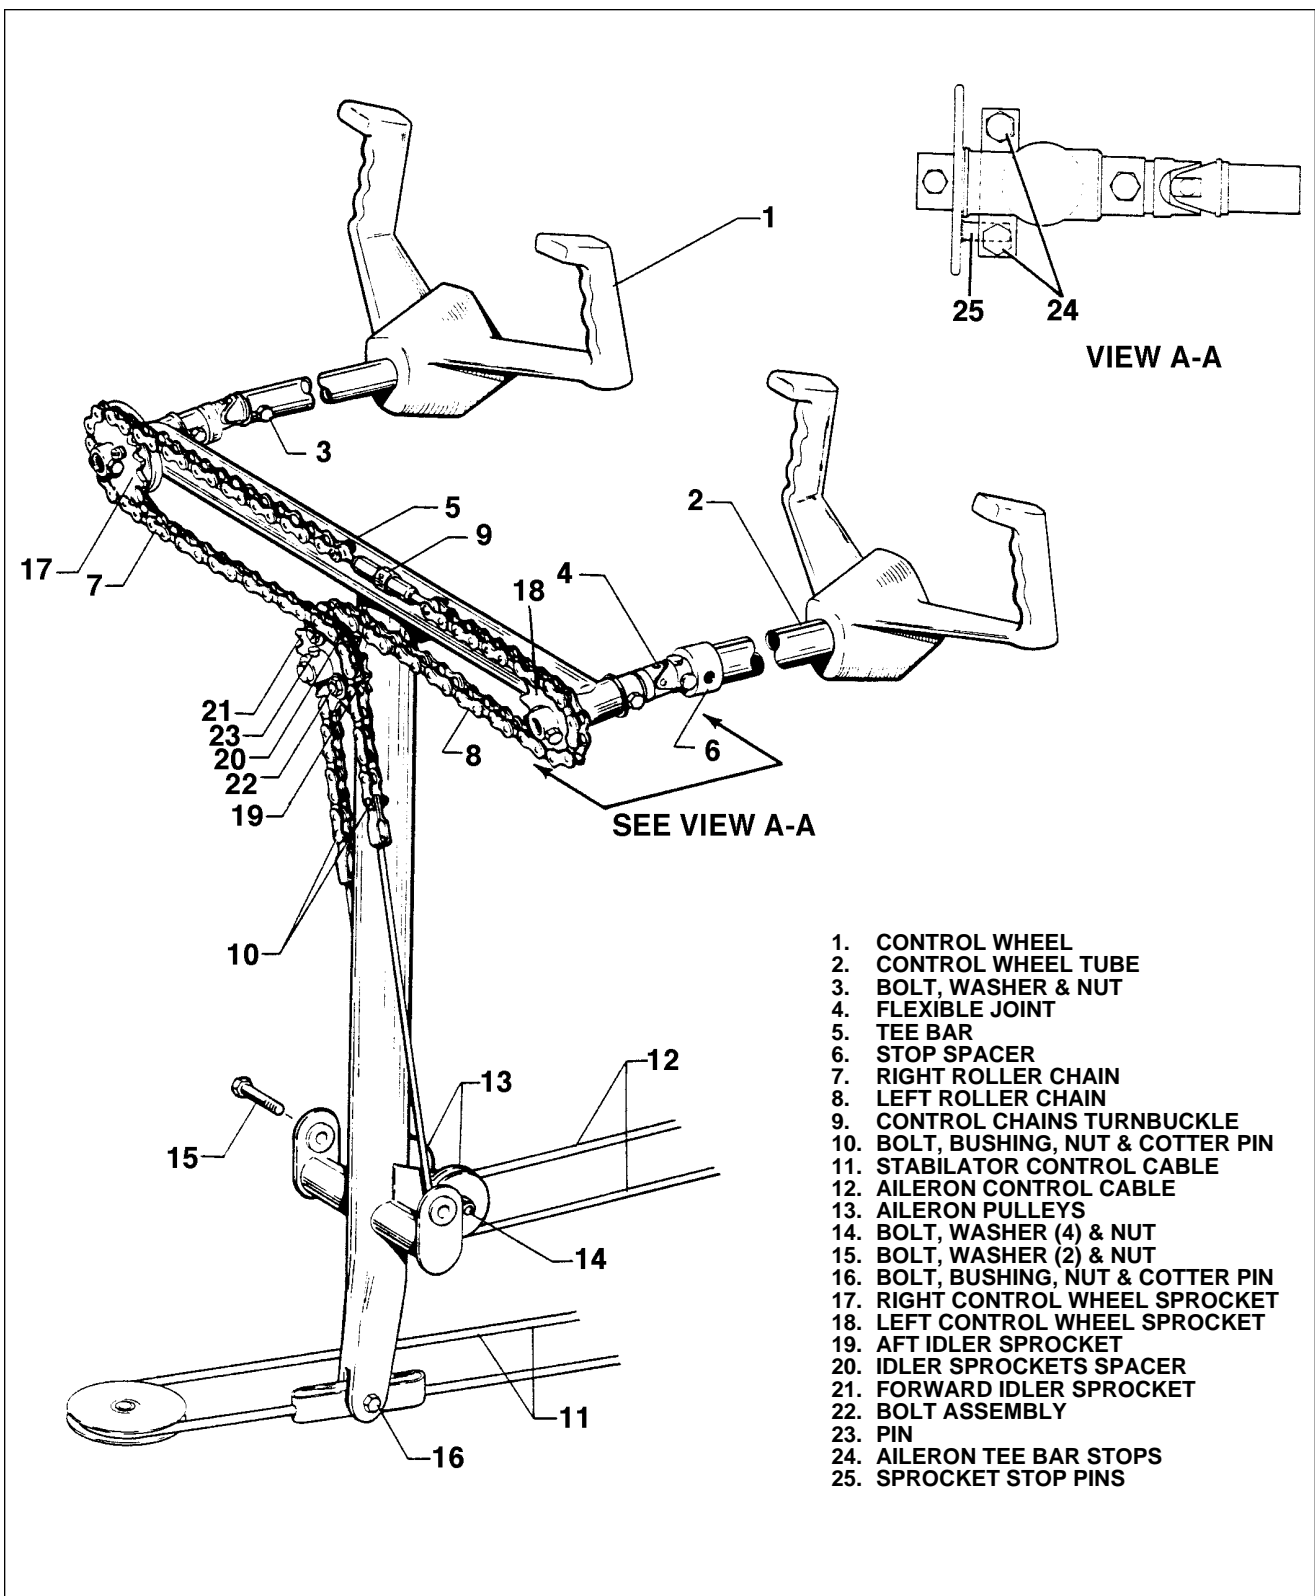

Figure 5-6. Control Column Assembly
5-7. REMOVAL OF CONTROL COLUMN ASSEMBLY. (Refer to Figure 5-6.)
5-8. INSTALLATION OF CONTROL COLUMN ASSEMBLY. (Refer to Figure 5-6.)
- 5-9. INSTALLATION OF FLEX JOINT REPLACEMENT. (Refer to Figures 5-6 and 5-7.)
- Using a #5 (0.2055) drill bit, drill hole through flex joint tube at location determined in paragraph (1).